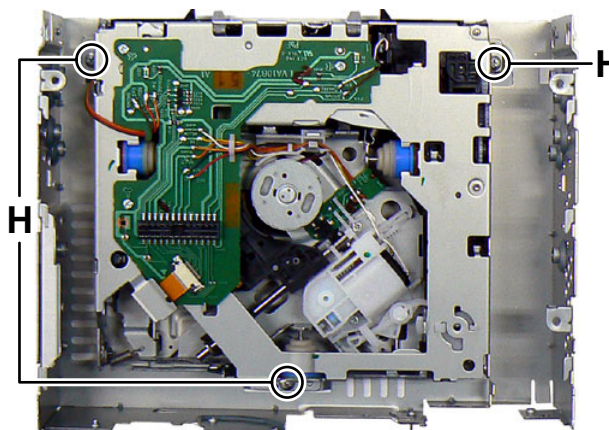

Fig.6
3.1.5 Removing the CD mechanism (See Fig.6)